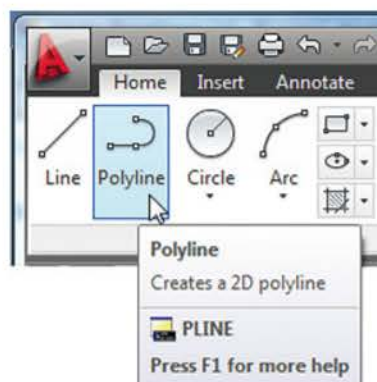

Fig. 2.1 Selecting the tool's name from a panel in the ribbon
1. *Clicking* on the tool's icon in its panel in the ribbon. Fig. 2.1 shows the **Polyline** tool being selected from the **Draw** panel.
1. *Click* on the **Polyline** icon in the **Home/Draw** panel (Fig. 2.1). The command line shows: